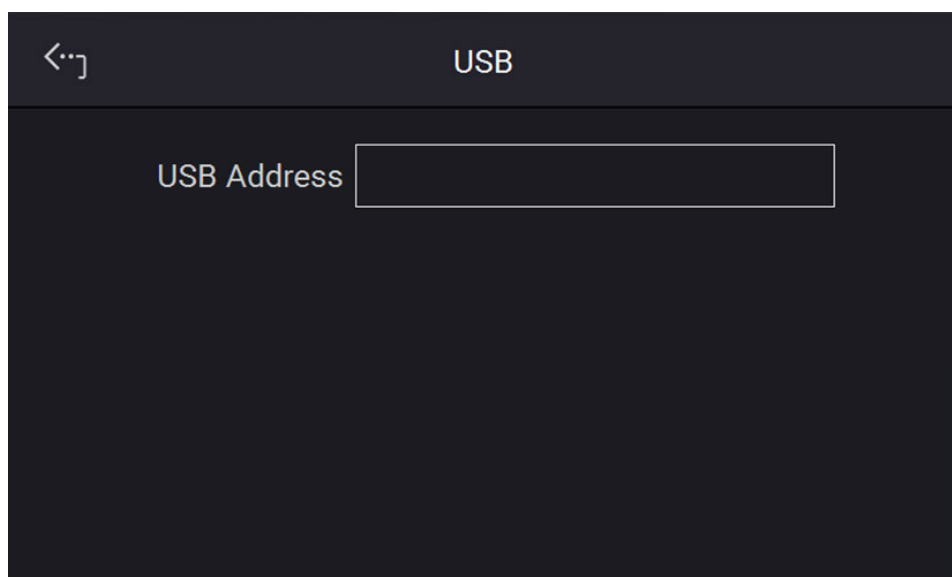

Figure 3-70
1. On the “Interface” page, select USB to enter into the USB Address screen as Figure 3-70 shows.